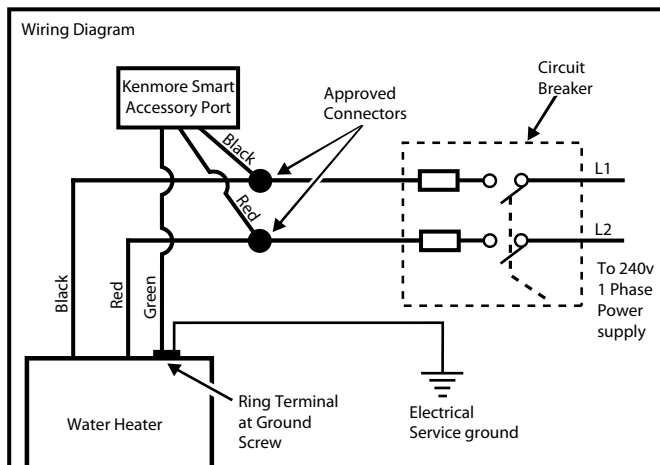
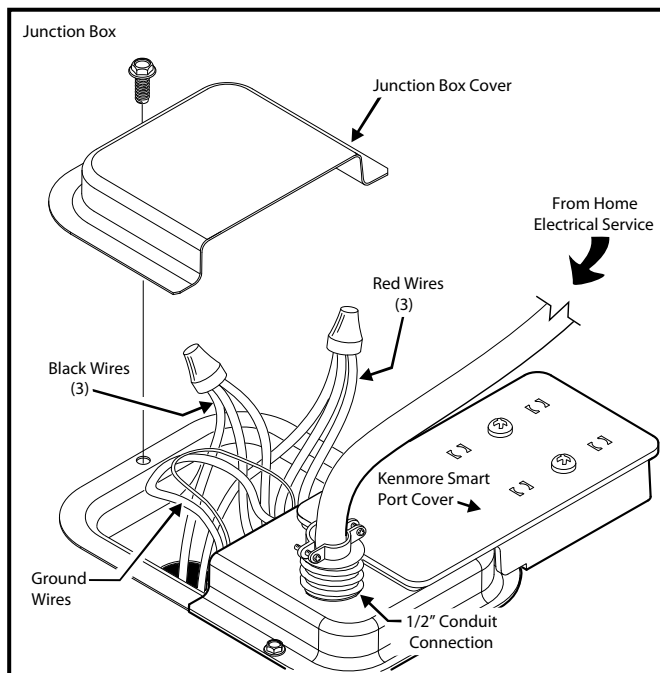

FIGURE 8
FIGURE 9
2. Remove the junction box cover that is secured by one screw (Figure 9). Place the cover and screw aside and view the wiring diagram. Locate the four power wires inside the junction box (there will be TWO red wires and TWO black wires).
3. Connect the electrical supply to the water heater in accordance with the local utility requirements and codes. A standard 1/2 inch opening has been made in the junction box for the conduit connections (Figure 9). NOTE: Use only 10 gauge solid copper wire for the electrical connections and an appropriately-sized double pole circuit breaker.
4. Ground the water heater by connecting the bare copper ground wire from the home's electrical service to the green ground screw (located inside the electrical junction box on top of the water heater). See Figure 8 and Figure 9.